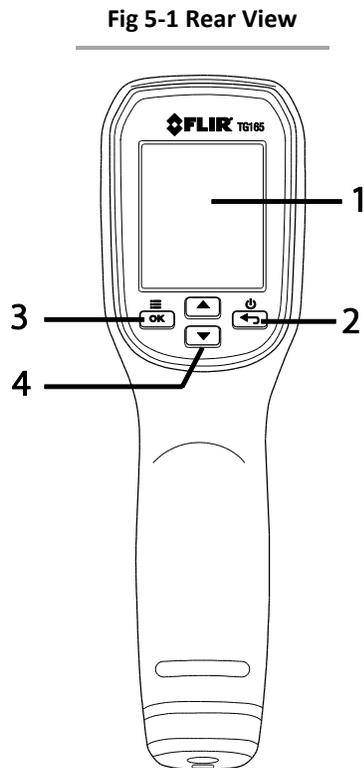

**Fig 4-3 SIDE VIEW**
- Fig 4-3 shows a side view where the dashed lines (1) represent the top and bottom (vertical) boundaries of the IR image field of view ( $50^\circ$ ).
- In Fig 4-2 the laser pointers (2) frame the spots (3). In Fig 4-3 the lasers' plane (2) is shown as one line instead of two (since the lasers are on the same plane when viewed from the side).